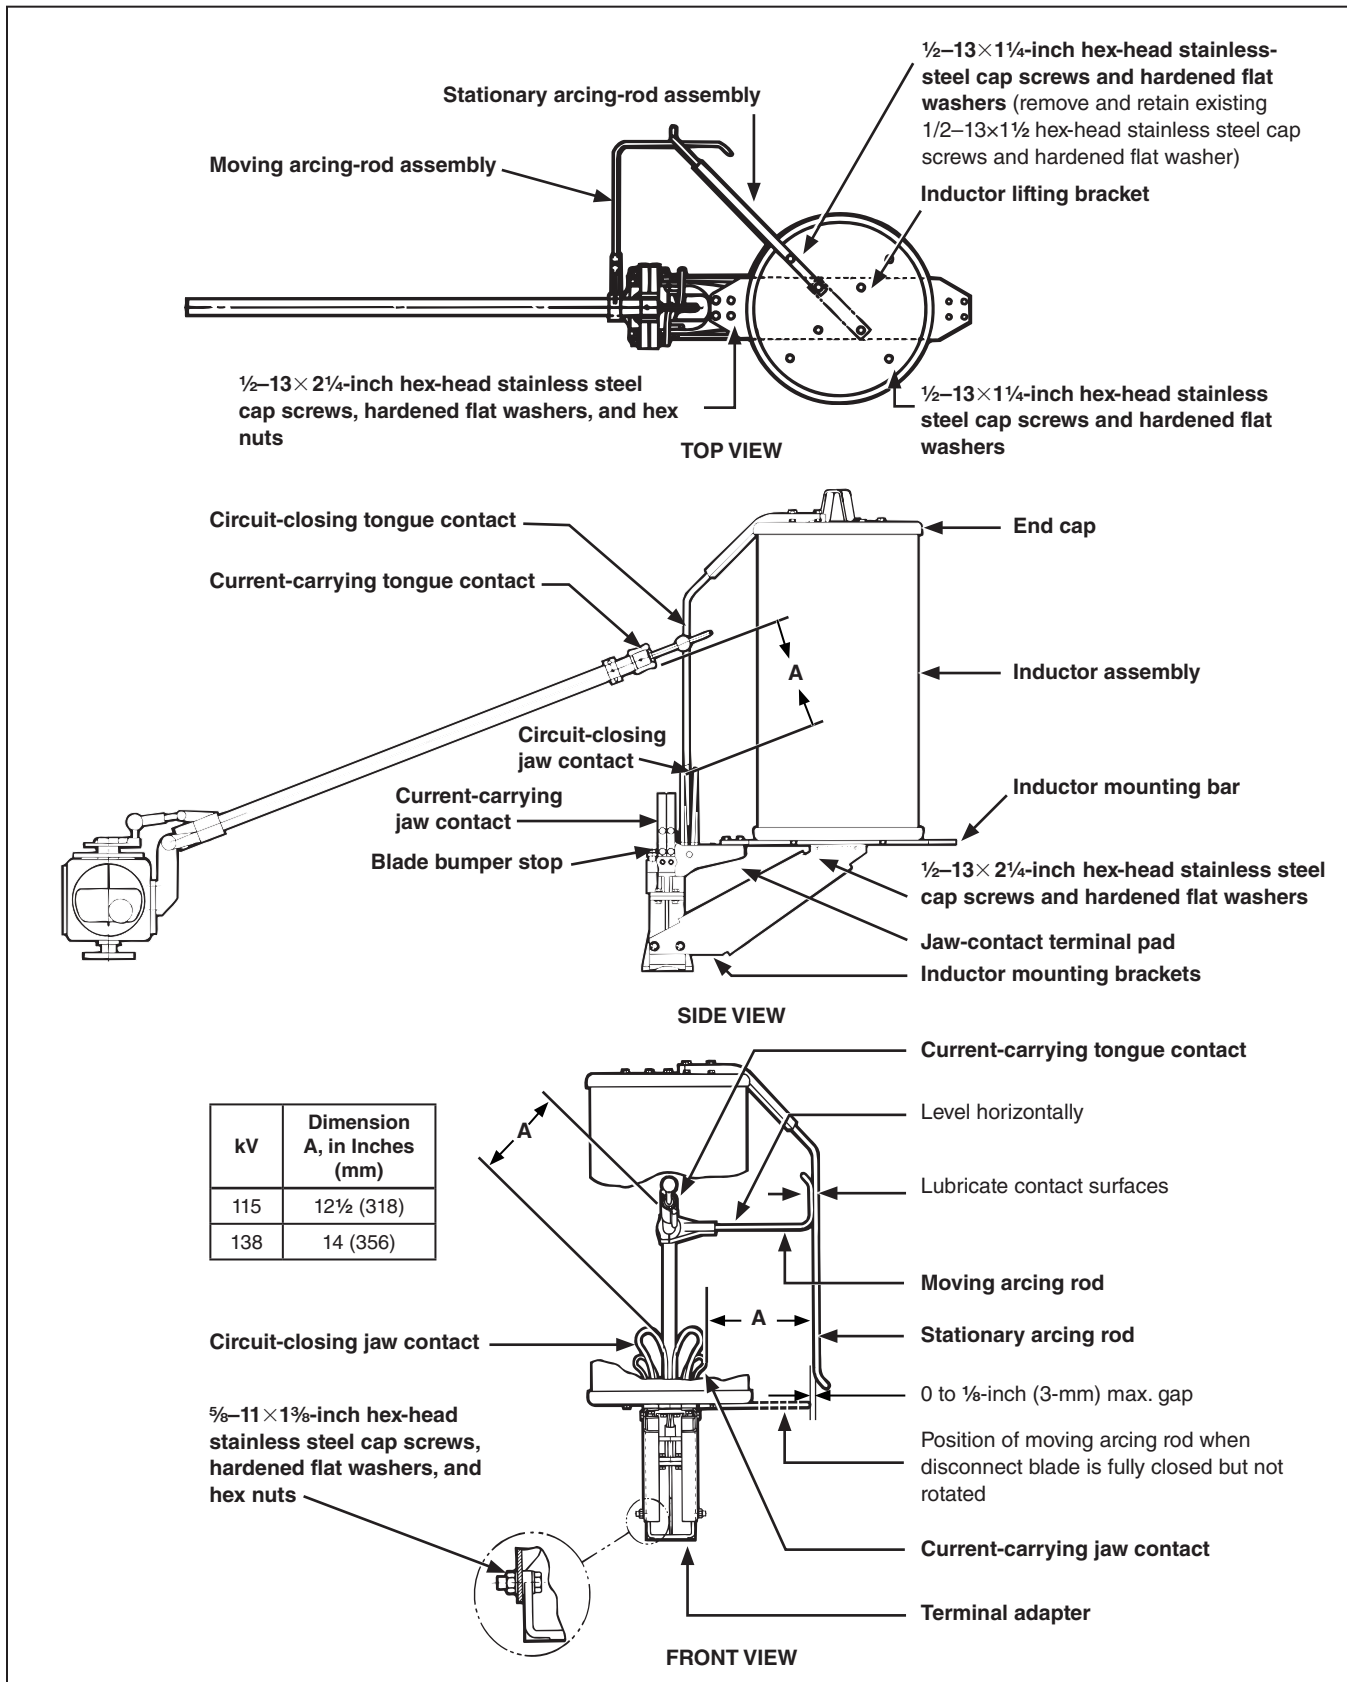

Figure 3. Assembly details of enhanced-duty pre-insertion inductors for 115-kV and 138-kV vertical-break style circuit-switchers.
- STEP 1.** Loosely attach the inductor mounting bar to the top of the jaw-contact terminal pad, using four $\frac{1}{2}$ -13 \times $2\frac{1}{4}$ -inch hex-head stainless steel cap screws, eight hardened flat washers, and four $\frac{1}{2}$ -13-inch hex nuts furnished. See the top view and side view in Figure 3 on page 12.
- STEP 2.** Refer to front view in Figure 3 on page 12, and insert—from the underside—four $\frac{5}{8}$ -11 \times $1\frac{3}{4}$ -inch hex-head stainless steel cap screws and hardened flat washers through the tapped holes on each face of the terminal adapter. Loosely attach the inductor mounting brackets to the terminal adapter using four $\frac{5}{8}$ -inch hardened flat washers and $\frac{5}{8}$ -11-inch hex nuts furnished. See side view and front view in Figure 3 on page 12.
- STEP 3.** Attach the inductor lifting bracket to the top end cap of the inductor assembly using two $\frac{1}{2}$ -13 \times $\frac{3}{4}$ -inch hex-head stainless steel cap screws and hardened flat washers furnished. See Figure 3 on page 12. Securely tighten the hardware.
- STEP 4.** Lift the inductor assembly on top of the inductor mounting bar and the inductor mounting bracket. Attach the bottom end cap of the inductor assembly to the inductor mounting bar and inductor mounting bracket using four $\frac{1}{2}$ -13 \times $2\frac{1}{4}$ -inch hex-head stainless steel cap screws and hardened flat washers. See side view in Figure 3 on page 12. Securely tighten the hardware.
- STEP 6.** Securely tighten each $\frac{5}{8}$ -11-inch hex nut attaching the inductor mounting bracket to the terminal adapter, while holding the associated $\frac{1}{2}$ -13 \times $\frac{3}{4}$ -inch hex-head stainless steel cap screw to prevent it from turning. See Figure 3 on page 12, front view. Now tighten each $\frac{5}{8}$ -11-inch hex nut $\frac{1}{8}$ additional turn.
- STEP 8.** Remove and retain the appropriate $\frac{1}{2}$ -13 \times $\frac{3}{4}$ -inch hex-head stainless steel cap screw and hardened flat washer from the top end cap of the inductor assembly. See top view in Figure 3 on page 12.
- STEP 10.** Manually close the circuit-switcher so the minimum metal-to-metal clearance between the current-carrying tongue contact and the nearest circuit-closing jaw contact is equal to Dimension A, as shown in side view and front view in Figure 3 on page 12.
Adjust the stationary arcing-rod assembly to obtain a 0-inch to $\frac{1}{8}$ -inch (3-mm) gap between the stationary arcing rod and the moving arcing rod. See front view in Figure 3 on page 12.
Securely tighten the two $\frac{1}{2}$ -13 \times 1 $\frac{3}{4}$ -inch hex-head stainless steel cap screws. Lubricate the contact surfaces with an appropriate lubricant, such as S&C catalog number 9999-043 or equivalent. See front view in Figure 3 on page 12.
- STEP 11.** Manually operate the circuit-switcher to recheck the alignment between the moving and stationary arcing rods. During closing, the clearance between the moving and stationary arcing rods should be 0 inch to $\frac{1}{8}$ inch (3 mm), as shown in front view in Figure 3 on page 12. Readjust the stationary arcing-rod assembly, if necessary, and then securely retighten the cap screws on the inductor assembly end cap.
- STEP 12.** Verify the minimum metal-to-metal clearance between the stationary arcing rod and the nearest current-carrying jaw contact is equal to Dimension A, as shown in front view in Figure 3 on page 12.
If necessary, loosen the four $\frac{1}{2}$ -13 \times 2 $\frac{1}{2}$ -inch hex-head stainless steel cap screws which secure the inductor assembly to the inductor mounting bar and inductor mounting bracket and reposition the inductor assembly. Then, securely retighten the cap screws. Make sure the 0-inch to $\frac{1}{8}$ -inch (3 mm) gap between the stationary arcing rod and the moving arcing rod shown in front view in Figure 3 on page 12, has been maintained.